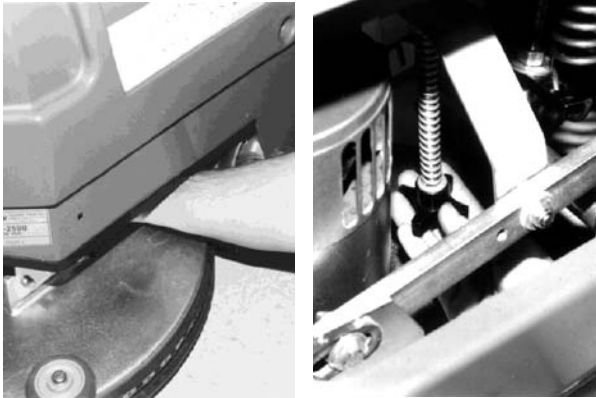

FIG. 10
3. If the needle is not in the center of the green bar, raise the pad head into the full up position and locate the pad pressure knob under the rear frame (Figure 10).